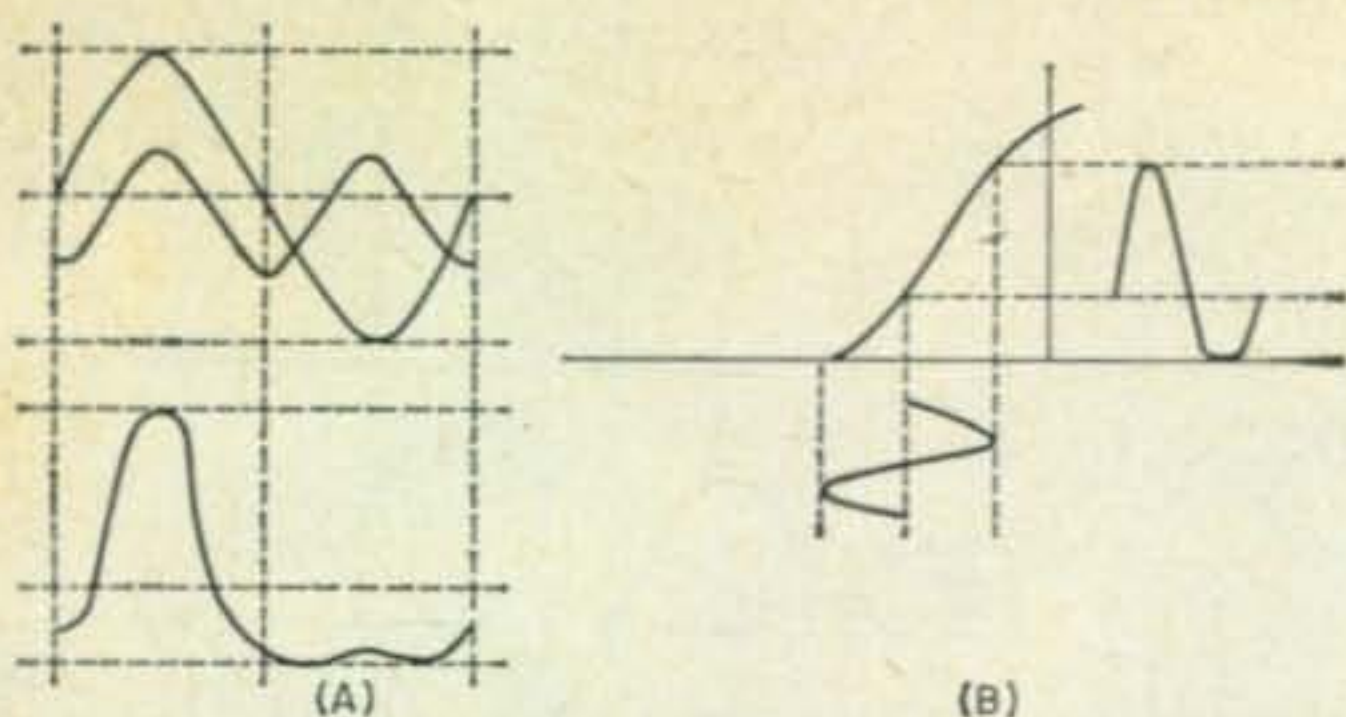

Fig. 7 — An illustration of how second harmonic distortion is produced by clipping and how it affects the wave-form.
The illustration in fig. 7 will help you in understanding the action of harmonics in vacuum tubes. Consider the top diagram (A) first. It shows two frequencies, a sine wave and its second harmonic. Just below the two frequencies is the waveshape produced by adding the two graphically. Notice that the sum is a distorted waveshape of the sine wave in which there is a large positive half cycle and a small negative cycle. The bottom diagram (B) shows similar results in which a harmonic generated in a vacuum tube is added to the signal frequency (fundamental) and causes the amplitude of the output to be distorted. This action results from operating the tube on the curved portion of the E_g-I_p curve. Here too, the output wave has a large positive half cycle and a small negative half cycle, a condition evidencing distortion. The output waveshape contains both the original fundamental signal waveshape and the harmonic which was generated in the tube and added to the fundamental by tube action.
Yes. See fig. 7. This scheme used by many fishermen also works very successfully with
Fig. 7—Simple method of splicing wires securely without soldering; a handy item for Field Day operations. Both ends of wire are pulled tight with pliers for a good connection.